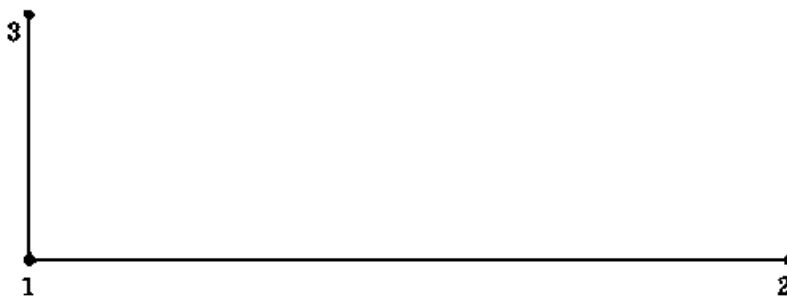

Fig. 1
a. Drive pegs 1 and 2 in the ground at a distance equal to the span of the hip truss (the span is measured as described on the previous page). Fix a line between the pegs (Fig. 1).
b. Fix a line perpendicular to line 1-2, starting from peg 1 (Fig. 1).
c. Drive peg 3 at a distance equal to the rise of the hip truss (Fig. 1).